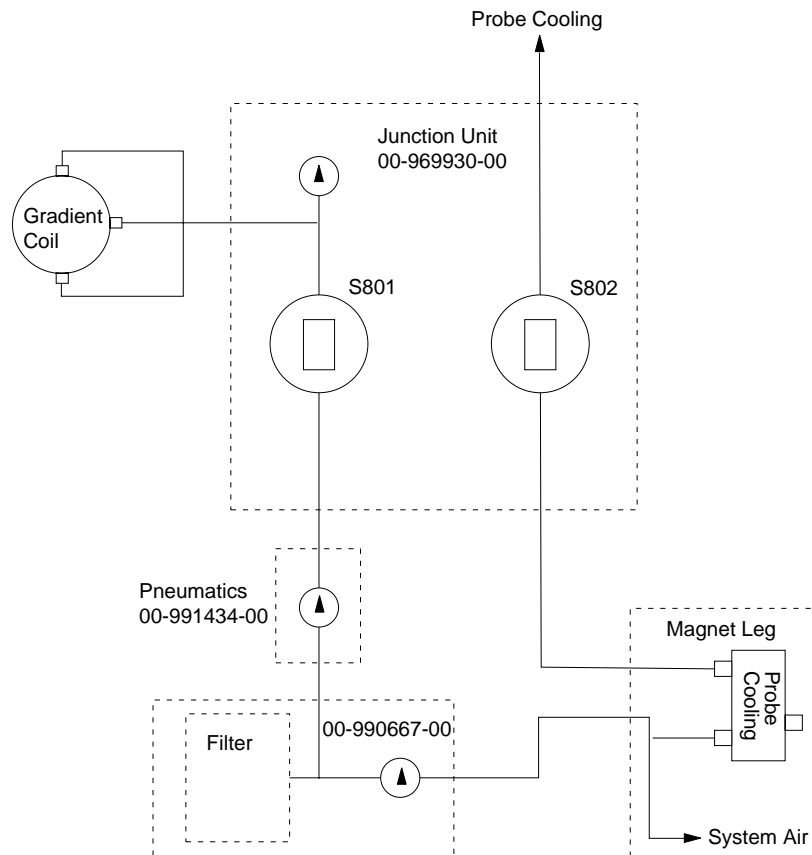

Figure 7. Air Flow Diagram
4. Check that the air hoses are properly connected. See the air flow diagram in **Figure 7**.
The gradient coil set and the microimaging probe use air for cooling. The air flow diagram in **Figure 7** shows the required connections. Depending on the air flow requirements of the gradient coil, set the pressure sensor switch S801 and S802 accordingly.